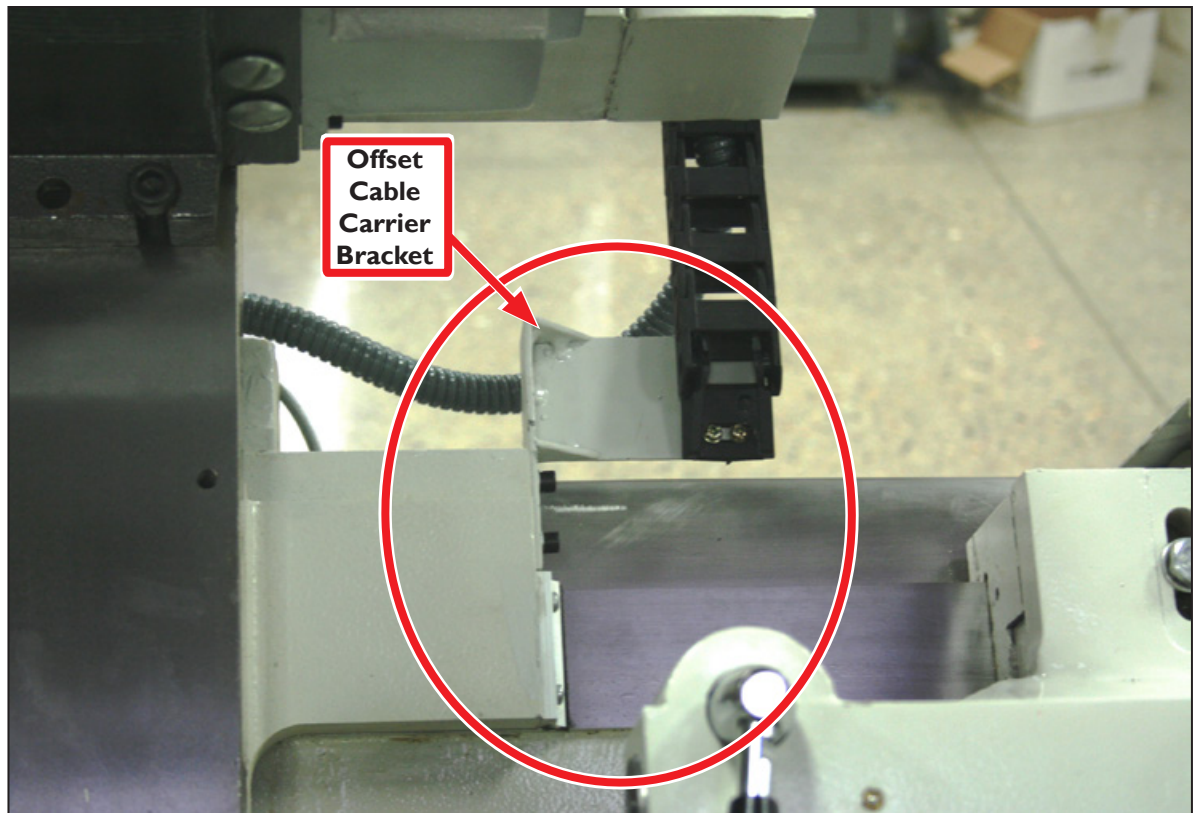

Figure 8
14. In the same location, attach the Offset Cable Carrier Bracket using two cap screws (set aside earlier) as shown in **Figure 8**. Tighten snugly.
15. Reattach the Cable Carrier using two screws and nuts (set aside earlier) as shown in **Figure 8**. Tighten snugly.